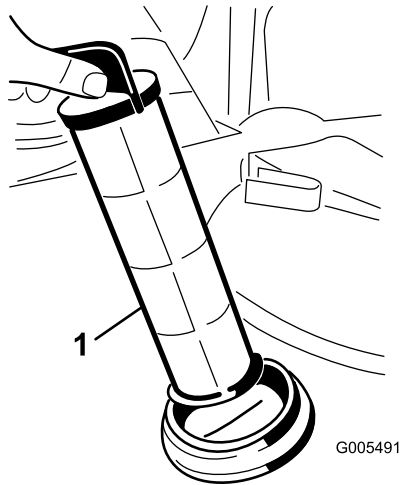

Figure 55
4. Pull the suction strainer out of the hole (Figure 55).